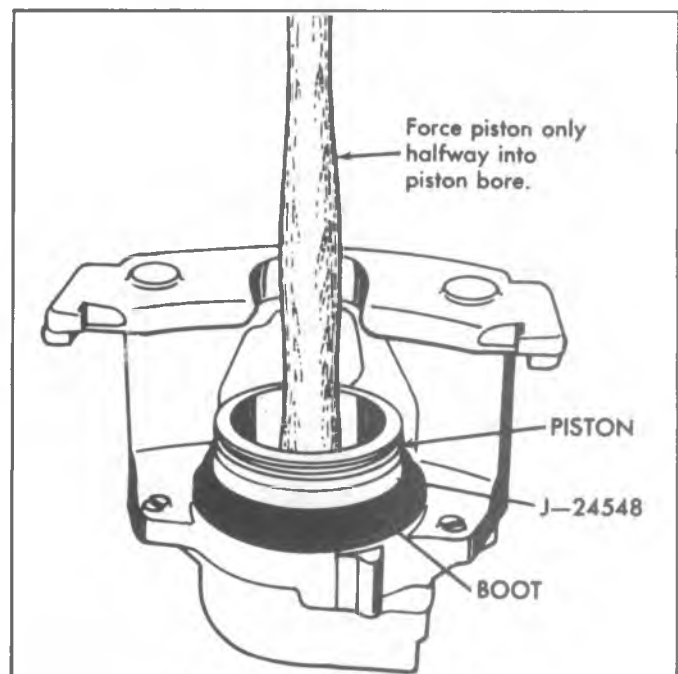

Fig. 5-42--Installing Piston in Caliper
3. Place the piston inside of Tool J-24548, force the piston halfway into the piston bore using a wood hammer handle or "C" clamp (fig. 5-42); remove Tool J-24548. Check to be sure the boot was not unseated at piston installation. Make sure the outer bead of the boot is seated in the piston outer groove.